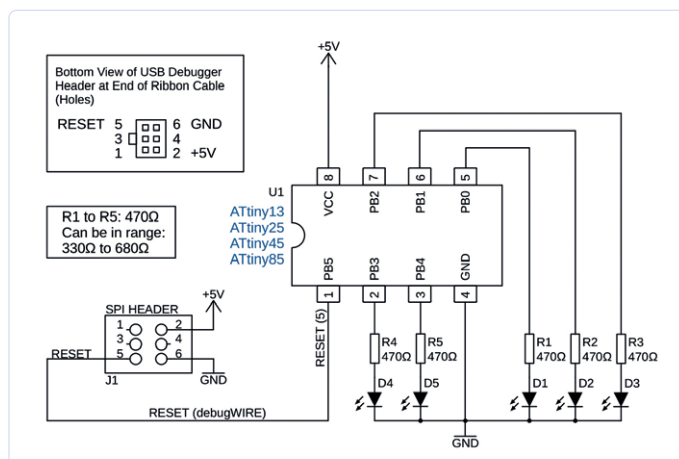
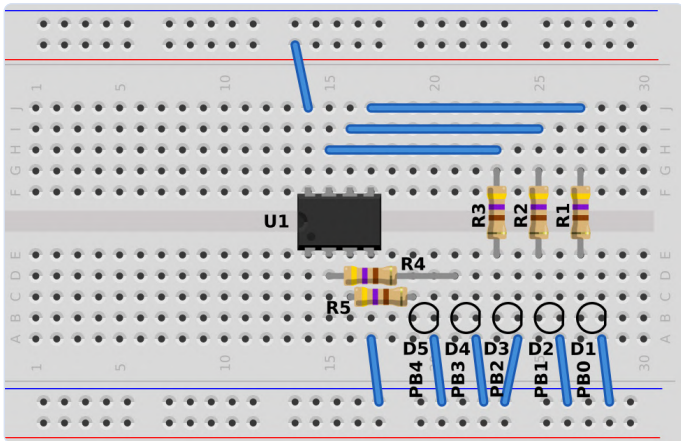

Figure 1: Five-LED Counter circuit diagram.
Figure 2: Five-LED count circuit breadboard layout.
Figure 1 shows a circuit diagram of an ATtiny13(A) or ATtiny25/45/85 AVR microcontroller with five LEDs attached to I/O pins PB0 to PB4. Pin PB5 of the ATtiny microcontroller in the circuit is used as the debugWIRE pin for programming and debugging the microcontroller.
USB programmers with program-only capabilities can be used with the circuit of Figure 1 to load the example program that follows and see the count value displayed on the LEDs.
Wire the LEDs as shown in Figure 1 and **Figure 2**. The original USBasp design and the original USBtinyISP design both have protection resistors on the lines that drive out from these programmers, protecting the programmer, and the target AVR chip. The Arduino Uno programmed as an ArduinoISP does not have any protection resistors, but these can be added on the Arduino Uno MOSI line and SCK line which drive into the target AVR. 270-Ω protection resistors are used in the original USBasp design, and are placed on the MOSI, SCK and RESET lines. 1k5 resistors are used on the MOSI and RESET lines of the original USBtinyISP design.
Although the circuit of Figure 1 can be programmed using the ISP/SPI interface with the LEDs and series resistors attached, other circuits may have hardware attached that interferes with programming. If any peripheral hardware attached to pins of an AVR to be programmed will interfere with programming the AVR, there are some solutions to this problem. Of course, those readers who have a debugWIRE capable USB programmer/debugger, such as the Atmel-ICE, can simply put the target AVR into debugWIRE mode, and thereby use
Alternatively, an AVR with more pins can be used, but the free port pins don't always match the same pins from the same port of an 8-pin PDIP ATtiny. For example, if using port pins PBO to PB4 like the circuit of Figure 1 does, there are not five consecutive free pins available on the 14-pin ATtiny24/44/84 range of AVR, because the ISP/SPI pins use up pins from both port A and port B. On the 20-pin ATtiny26/261/461/861 range, the whole of port A is free with an ISP/SPI programmer connected, but this means that the software needs to be changed to use port A instead of port B. Fortunately, the 20-pin ATtiny2313/4313 range does have pins PBO to PB4 free with an ISP/SPI programmer connected.
In order for the microcontroller to be programmed using a single debugWIRE line as shown in Figure 1, it is necessary to first connect all of the ISP header lines to the microcontroller from the USB programmer/debugger and then set the DWEN fuse of the AVR to put it into debugWIRE mode. Your AVR will now be in debugWIRE mode. If not, attach your programmer/debugger, such as an Atmel-ICE or AVR Dragon, and ensure you are ready and able to set the DWEN fuse. Once the DWEN fuse is programmed, all of the ISP header connections can be removed from the circuit except RESET, +5 V (Vcc) and GND as Figure 1 shows.
If you have the hardware, then build the circuit of Figure 1 on an electronic breadboard. Make sure that the five LEDs are connected in a row on the breadboard with pins PBO to PB4 connected in order starting at PBO on the right. LED D1 will then be on the right of the row and D5 on the left. In other words, we want a single row of LEDs with PBO connected to the LED on the right, PB1 connected to the LED next to it on the left, PB2 connected to the LED third from the right, and so on, as can be seen in the breadboard layout of Figure 2. The image shows just the outlines of the LEDs so that they do not block the view of the wire connections and resistors. If you do not have the hardware, then follow the programs using a simulator.
If you are using the hardware of Figure 1, then select the hardware tool (your debugger), such as the Atmel-ICE within Microchip Studio, with debugWIRE as the interface. You do so by clicking the *hammer* icon on the second top toolbar. If you are using the simulator, select *Simulator* as the tool instead. If using a “hobby” programmer, read on to be prompted to load the program to the target ATtiny.
pins so that the LEDs attached to these pins can be driven on and off by the program. The program displays an incrementing binary number, or count, on the LEDs starting at 0 (represented by all LEDs off). When the count reaches its maximum value (all LEDs on) it wraps around to zero and starts counting up again. Each “off” LED represents a binary zero digit or logic 0 level, and each “on” LED represents a binary one digit, or logic 1 level. It is important to lay out the LEDs as shown in Figure 2 so that the count displays correctly with PBo/D1 as the LSB and PB4/D5 as the MSB of the count value.
Build the program and load it to the AVR if you are using the physical hardware of Figure 1 and Figure 2. If using an Atmel-ICE or AVR Dragon, use the *Start Without Debugging* icon on the top toolbar of Microchip Studio or keyboard shortcut **Ctrl + Alt + F5** to load the program to the AVR. If the debugger interface is set up correctly and the chip is in debugWIRE mode, the program will load and start running. The incrementing binary count will be seen on the LEDs. If using a program-only USB programmer such as a hobby programmer, then load the program to the target AVR using the appropriate function. If the program was typed correctly, the circuit wired correctly, and the program was saved and built after typing it in, you will see the binary count value counting up on the LEDs and you can use the simulator with the rest of the text that follows.